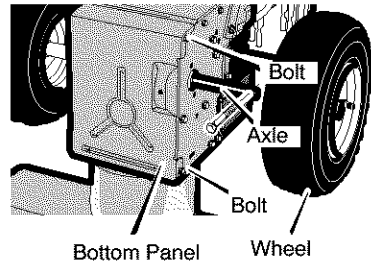

Figure 31
4. Remove the fasteners that secure the right **wheel**. Remove the **right wheel** from the **axle** (see Figure 31)
19. Install the **bottom panel** (see Figure 31).